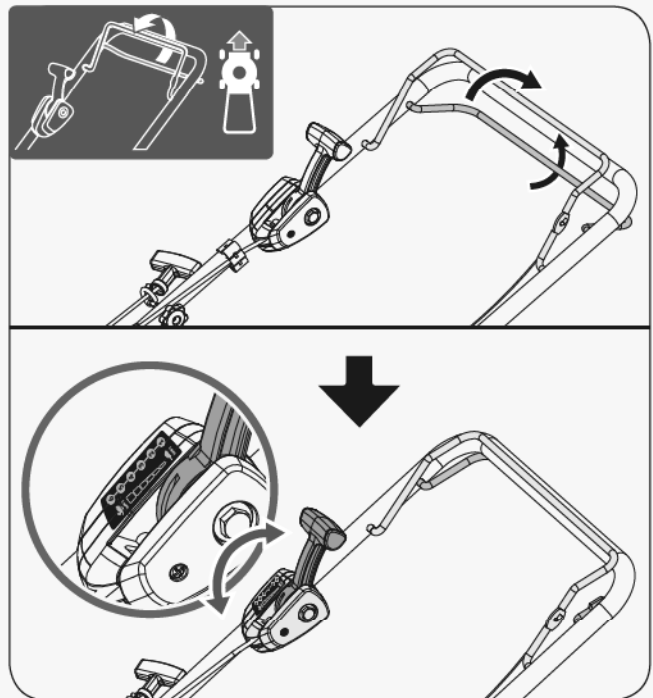

Figure 7
3. Release the drive control lever to disengage the drive, for example when you go near an obstacle. (See **Figure 7**)